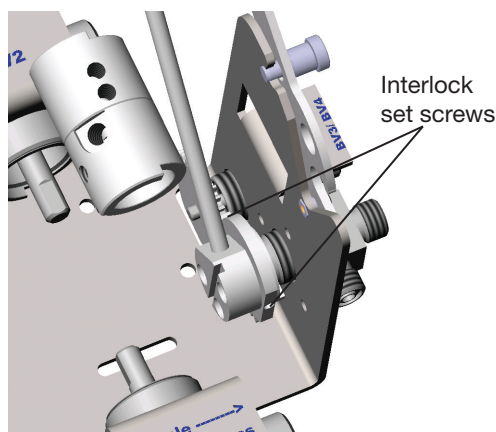

Fig. 5
- Loosen the interlock set screws. Fig. 5.